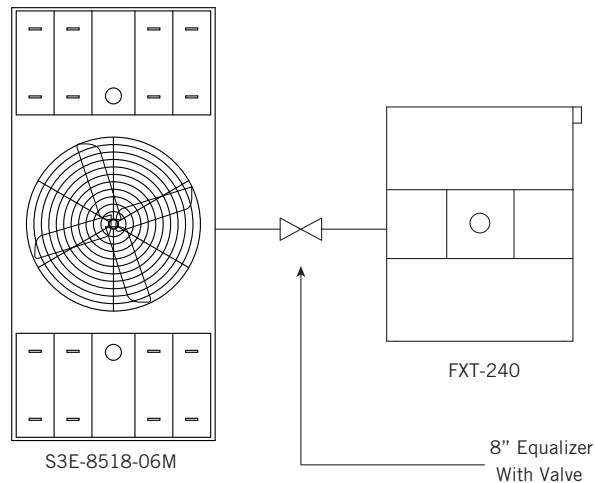

Figure 2. Sample Problem; Equalizer Connection Plan View
2. From **Table 8**, an 8" equalizer connection can be located either on the ends or on the bottom of both units. With towers situated side-by-side, it is more convenient to locate the equalizer connections on the ends of both towers, as shown in **Figure 2**.